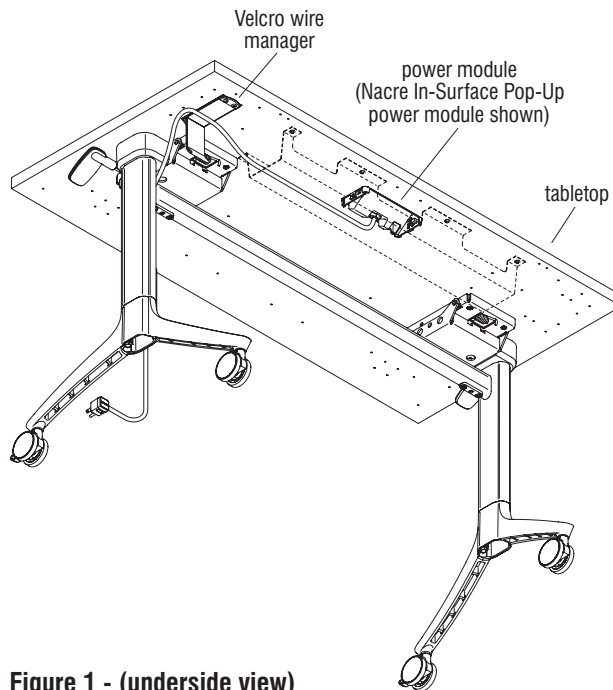

Figure 1 - (underside view)
1. Route the desired Pattern power infeed or power module cord to the desired Velcro manager and strap the cord in (Figure 1).